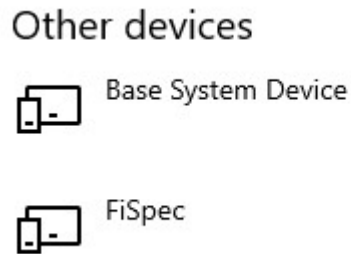

Figure 2. Installed FiSpec in Windows Settings
Begin by connecting the FiSens interrogator to your PC via the USB cable provided. This connection will automatically install the FTDI driver if the PC is connected to the internet. The FTDI driver is also provided on the FiSens Zip Drive under *Software\FTDI driver\ CDM21228_Setup.exe*. Further information can be found in the PDF files in the same directory. After successful installation of the driver, the FiSpec device can be found in Windows Settings under Devices as seen in Figure 2.
2. Ensure that the FiSpec device appears as a device in Windows Settings as seen in Figure 2.